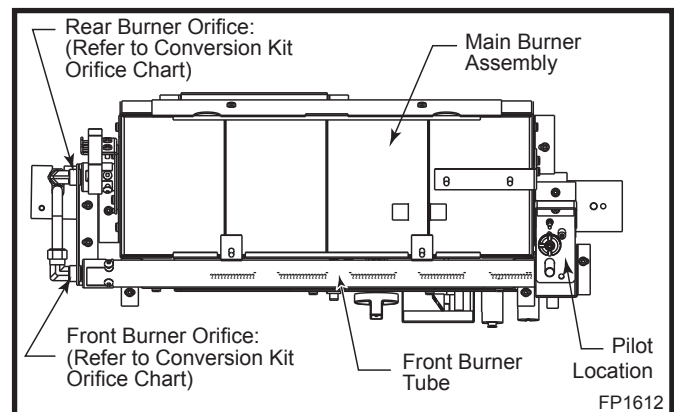

Fig. 84 Remove burner assembly.
2. Remove burner orifice from manifold assembly using 7/16" wrench. (Fig. 84)